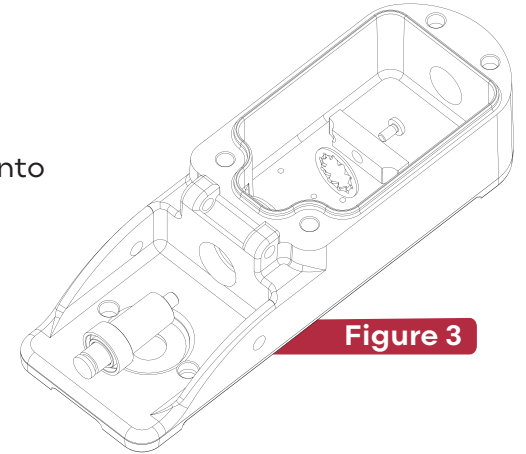

Figure 3
- Place the pedal pressure plastics on the outer side and insert the mechanical transmission elements into the housing in the order shown **(Figure 3)**.